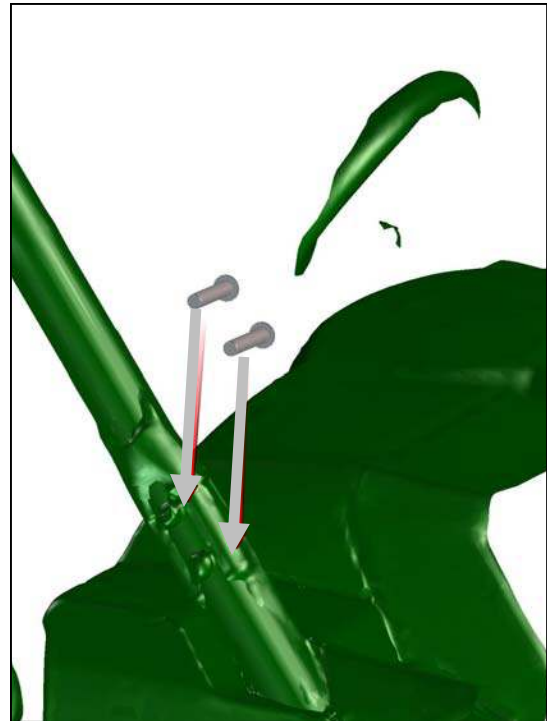

Fig. 3.2
**3.2** Per fig. 3.2, the screws are to be inserted from the inboard side on each side of the vehicle.